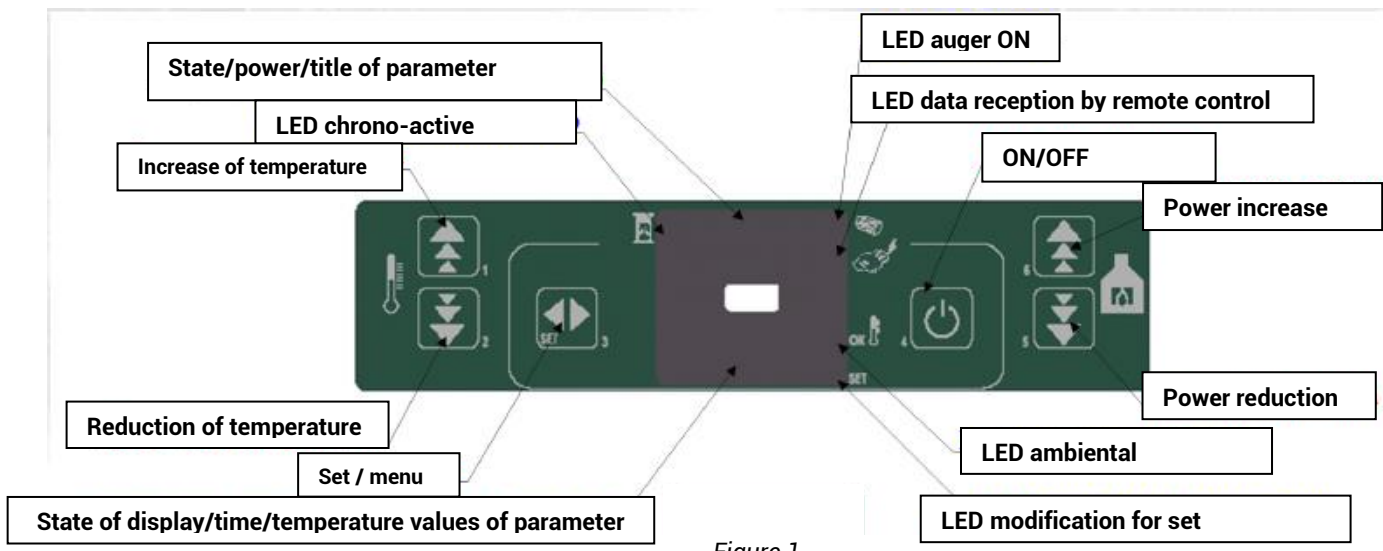

Figure 1
8.1. DESCRIPTION OF THE ELECTRONIC CARD (KEYBOARD) (figure 1)